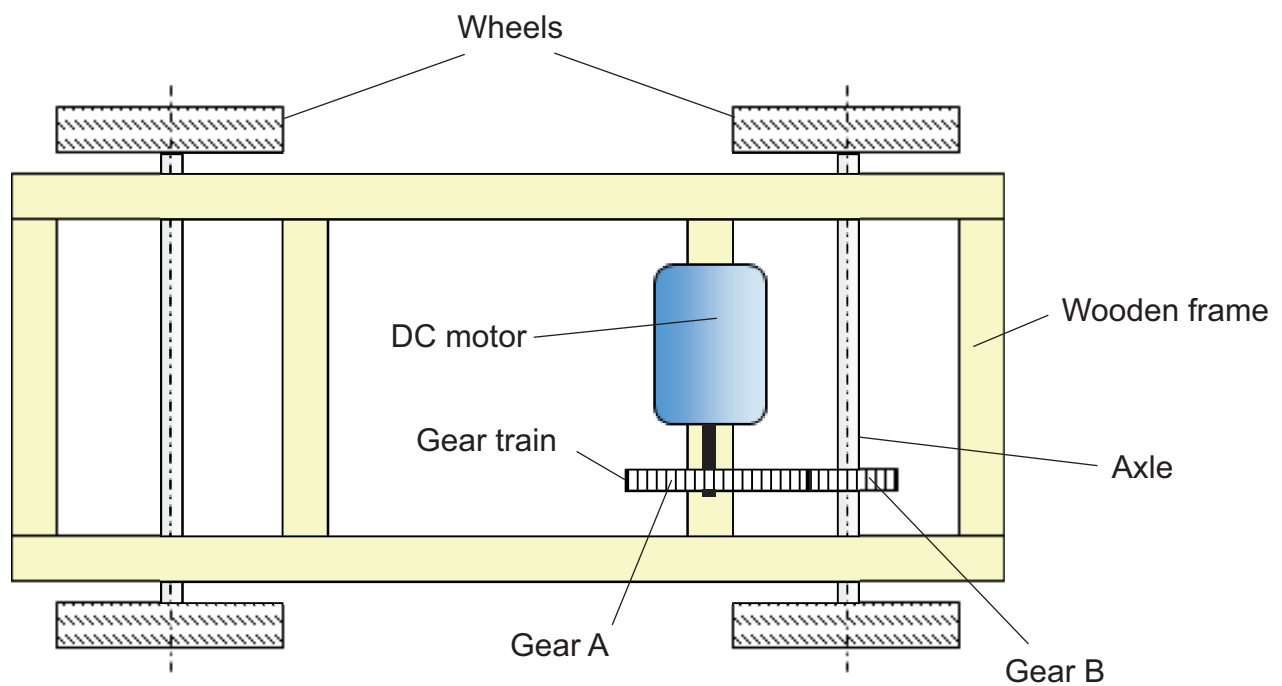

Fig. 11
- (b) **Fig. 11** shows a proposed plan view of a toy lorry chassis. The frame is to be made of wood and have four plastic wheels and axles attached. It is to be driven by a small DC motor and two gear wheels.